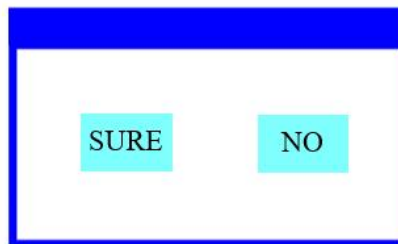

Figure 5 Confirm input window
- The important parameters are set through the confirmation window, as shown in Figure 5 below :